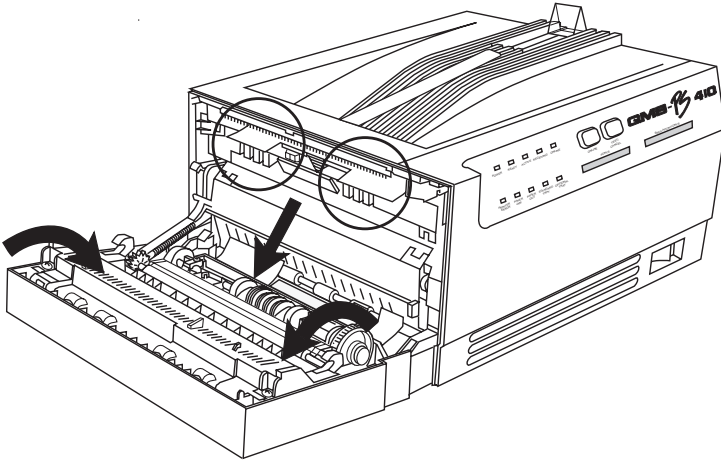

Fig. 6.7 *Possible Toner Locations*
1. Look inside the printer by opening the paper path door. Spots where toner may collect are shown in figure 6.7.
Wipe away any visible toner with a dry lint-free cloth. Do not remove the EP-L cartridge and be careful not to bend any of the mylar paper guides (circled in fig. 6.7).